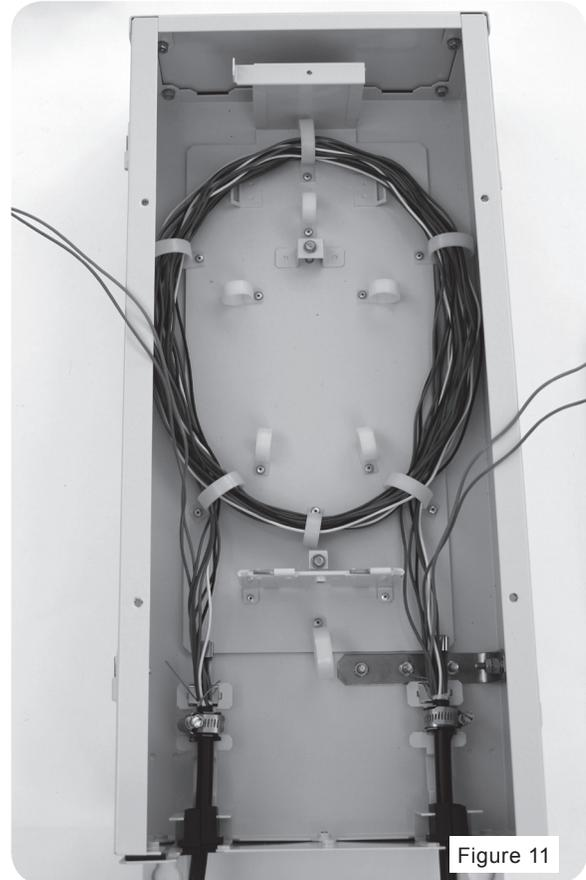

Figure 11
2. Route the expressed buffer tubes through the outer fiber management rings with two loops. **(Figure 11)**